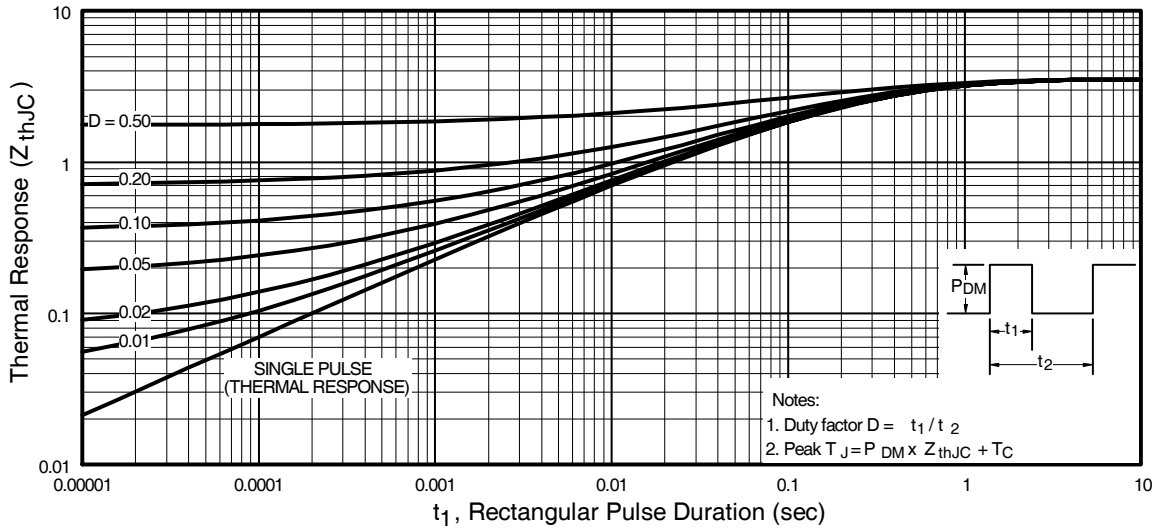

Fig 11. Maximum Effective Transient Thermal Impedance, Junction-to-Case
- ① Repetitive rating; pulse width limited by max. junction temperature. (See fig. 11)
- ② Starting $T_J = 25^\circ\text{C}, L = 64\mu\text{H}$